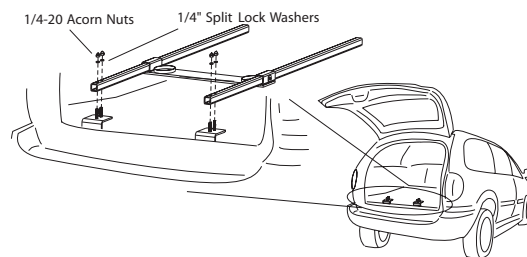

Figure 4-25
7. Attach rails to brackets. **See Figure 4-25.**